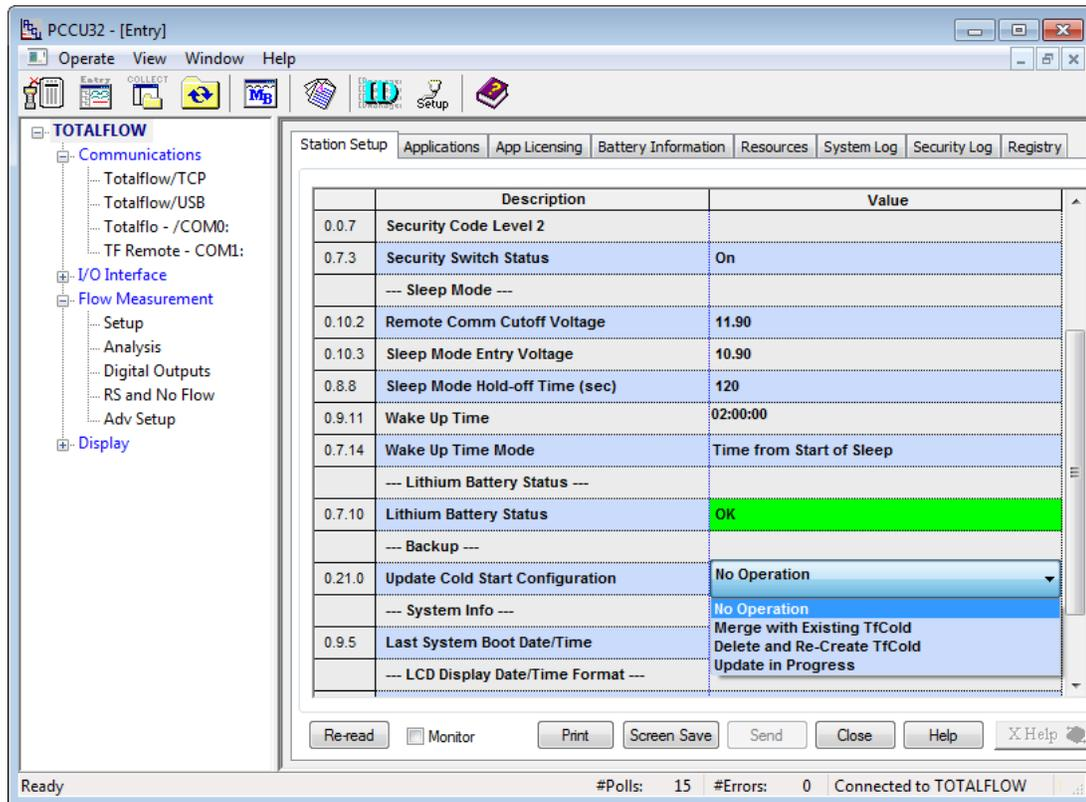

Figure 64: Delete and recreate the TFCold configuration
- b. Use the scroll bar to locate **Backup > Update Cold Start Configuration** and select **Delete and Recreate TFCold** to write the running (warm) configuration to the startup (cold) configuration (Figure 64).